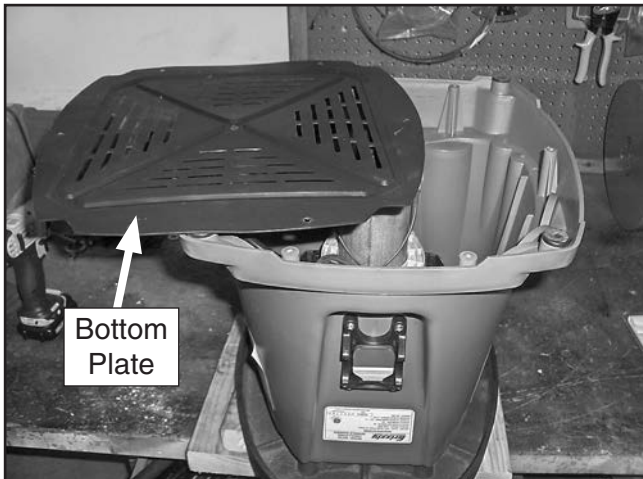

Figure 21. Sander turned upside down with bottom plate removed.
3. Remove six M4 x 14 tap screws (#91) from bottom plate (#90) shown in **Figure 21**.